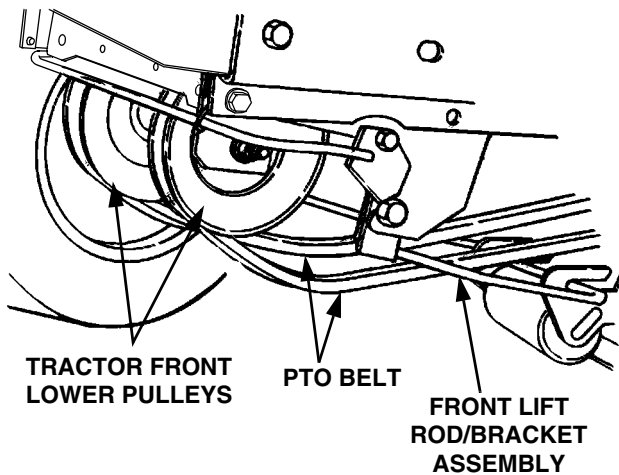

Figure 51
10. From the front of the tractor, loop the PTO belt with the narrow side of the 'V' belt inward; then pass the belt upward in front of the lower front pulleys and inside the tractor frame (Refer to Figure 51).
12. Twist the two sides of the PTO belt 1/4 turn inward to engage the narrow sides of the belt into the grooves of the two tractor front-lower pulleys (See Figure 51).